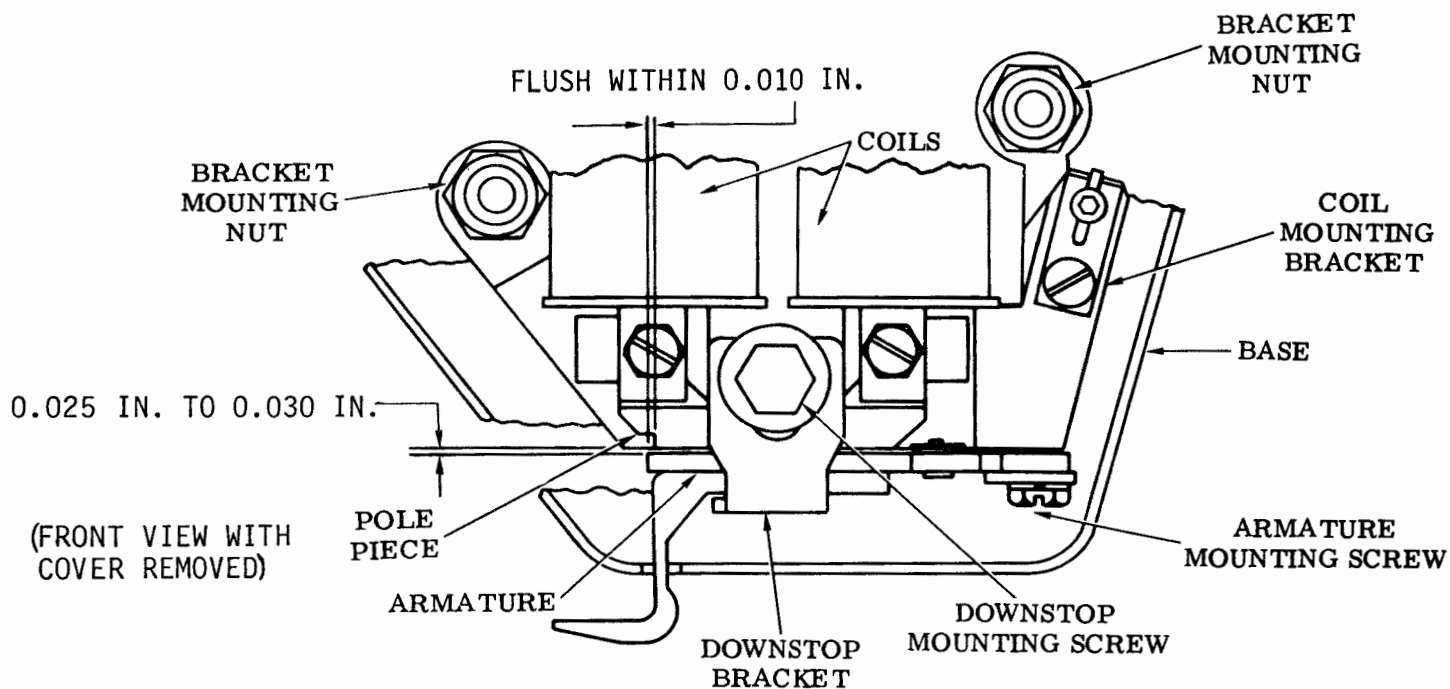

Figure 6-97. Selector Armature
(1) Refer to figure 6-97.
(2) De-energize magnet assembly and remove from base.
(3) Loosen down-stop mounting screw friction tight.
(4) With armature resting against downstop, measure clearance between end of armature and left edge of left pole piece: clearance should be between 0.025 inch (minimum) and 0.030 inch (maximum).
(5) Position down-stop to meet requirement, and tighten mounting screw.
(6) Loosen armature mounting screws, and position armature so that its left edge should be flush within 0.010 inch with left edge of left pole piece.
(7) Tighten screws.